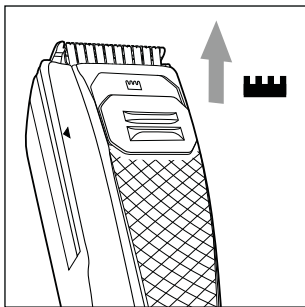

Fig. 6
- 1) Push the slider for the thinning function  ② upwards to the position . The thinning function built into the shaving head ① is moved upwards (see fig. 6).